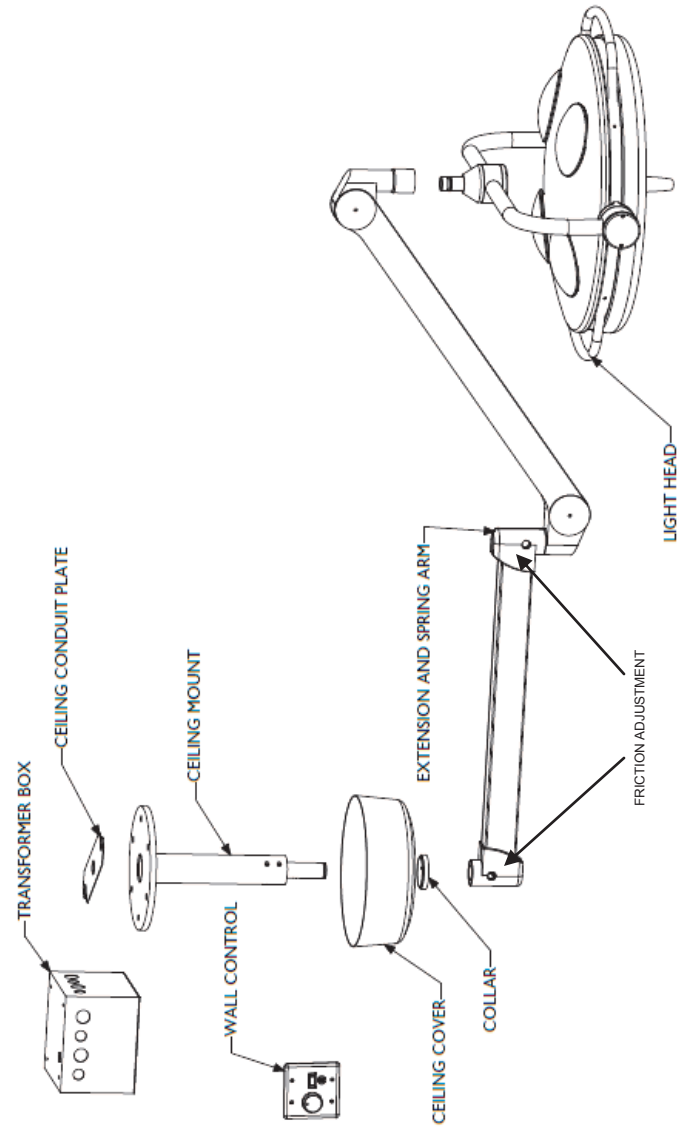

Figure 3: Single Ceiling
5. Adjust the rotational friction to desired level with the adjustment screw, see Figure 3.